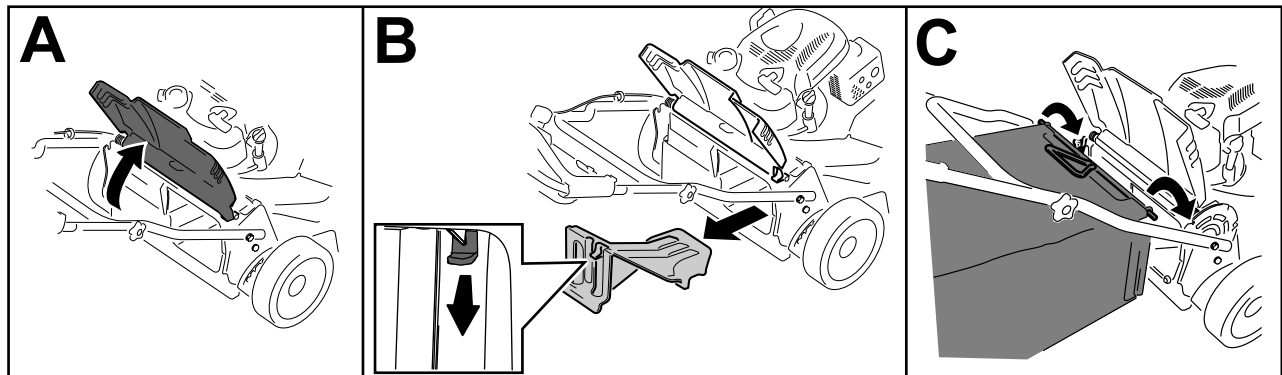

Figure 24
1. Raise and hold up the rear deflector (A of Figure 24).
2. Remove the rear-discharge plug by pulling down on the latch with your thumb and pulling the plug out from the machine (B of Figure 24).
3. Install the bag rod into the notches at the base of the handle and rock the bag back and forth to ensure that the rod is seated at the bottom of both notches (C of Figure 24).